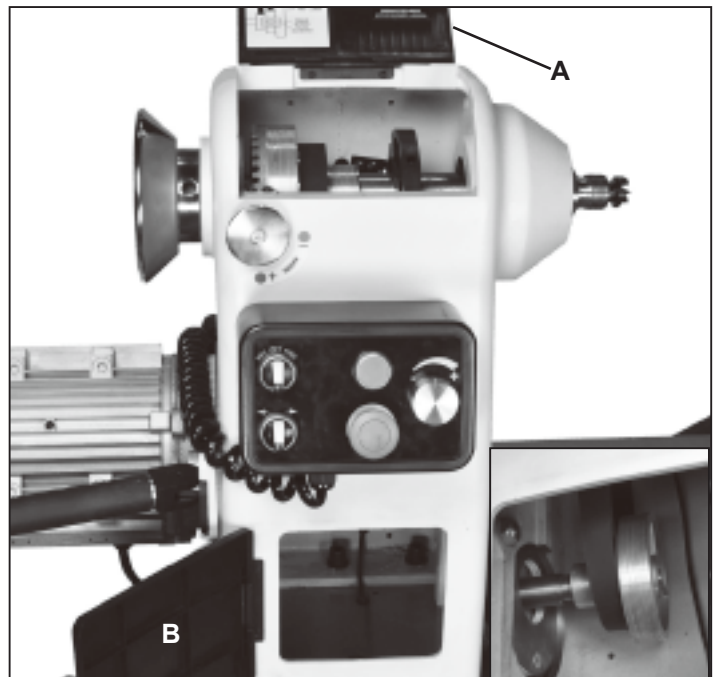

Fig.6.2.1
2. Open the 2 Belt Doors to gain access to the belt and pulleys that are inside of the headstock. FIG. 6.2.1, A & B.